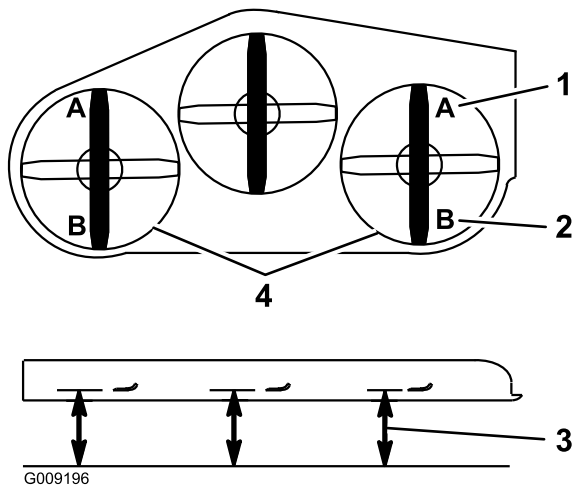

**Figure 87**
5. Push the deck-lift pedal all the way forward and the deck will latch at the 14 cm (5-1/2 inch) TRANSPORT position (Figure 87).